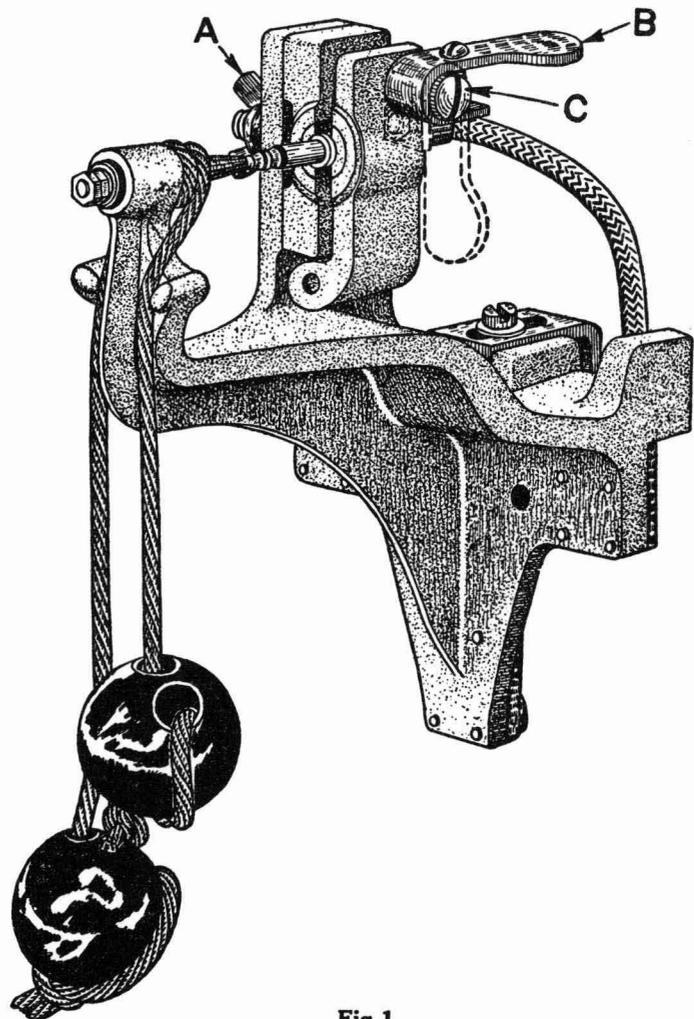

Fig. 1.
the two pins attached to the upright into the small holes of the chuck, and tightening wing nut (A), Fig. 1.
3.03 Lever (B) should be attached to screw (C) so that approximately a quarter turn from the position shown in Fig. 1 to the position indicated by the dotted outline will clamp the plug sufficiently secure for the cleaning operation. By having the lever in this position, the operation of clamping and unclamping the plug can be readily performed with a minimum of effort, since it ties in directly with the operation of placing the plug in the cleaning fixture and picking up the cord used when cleaning the plug.
3.05 Wrap a piece of cord approximately two feet in length around the centering pin at the front end of the fixture. This cord should be wrapped around the centering pin and laid over the plug in the following manner; starting at the left, pass the cord over the centering pin, make one complete loop about this pin and bring the cord down at the right of the pin and to the rear of the first turn. (See Fig. 1.)
3.07 The plug to be cleaned is inserted at the rear of the chuck until the tip centers in the cup-shaped portion of the centering pin. The clamping lever is turned down sufficiently to secure the plug. With the lever positioned as shown in Fig. 1, these operations can be made jointly.
3.10 Raise the lever and remove the plug from the fixture. The lever and cord should be left in the position shown in Fig. 1 preparatory to inserting the next plug to be cleaned into the chuck of the cleaning fixture.